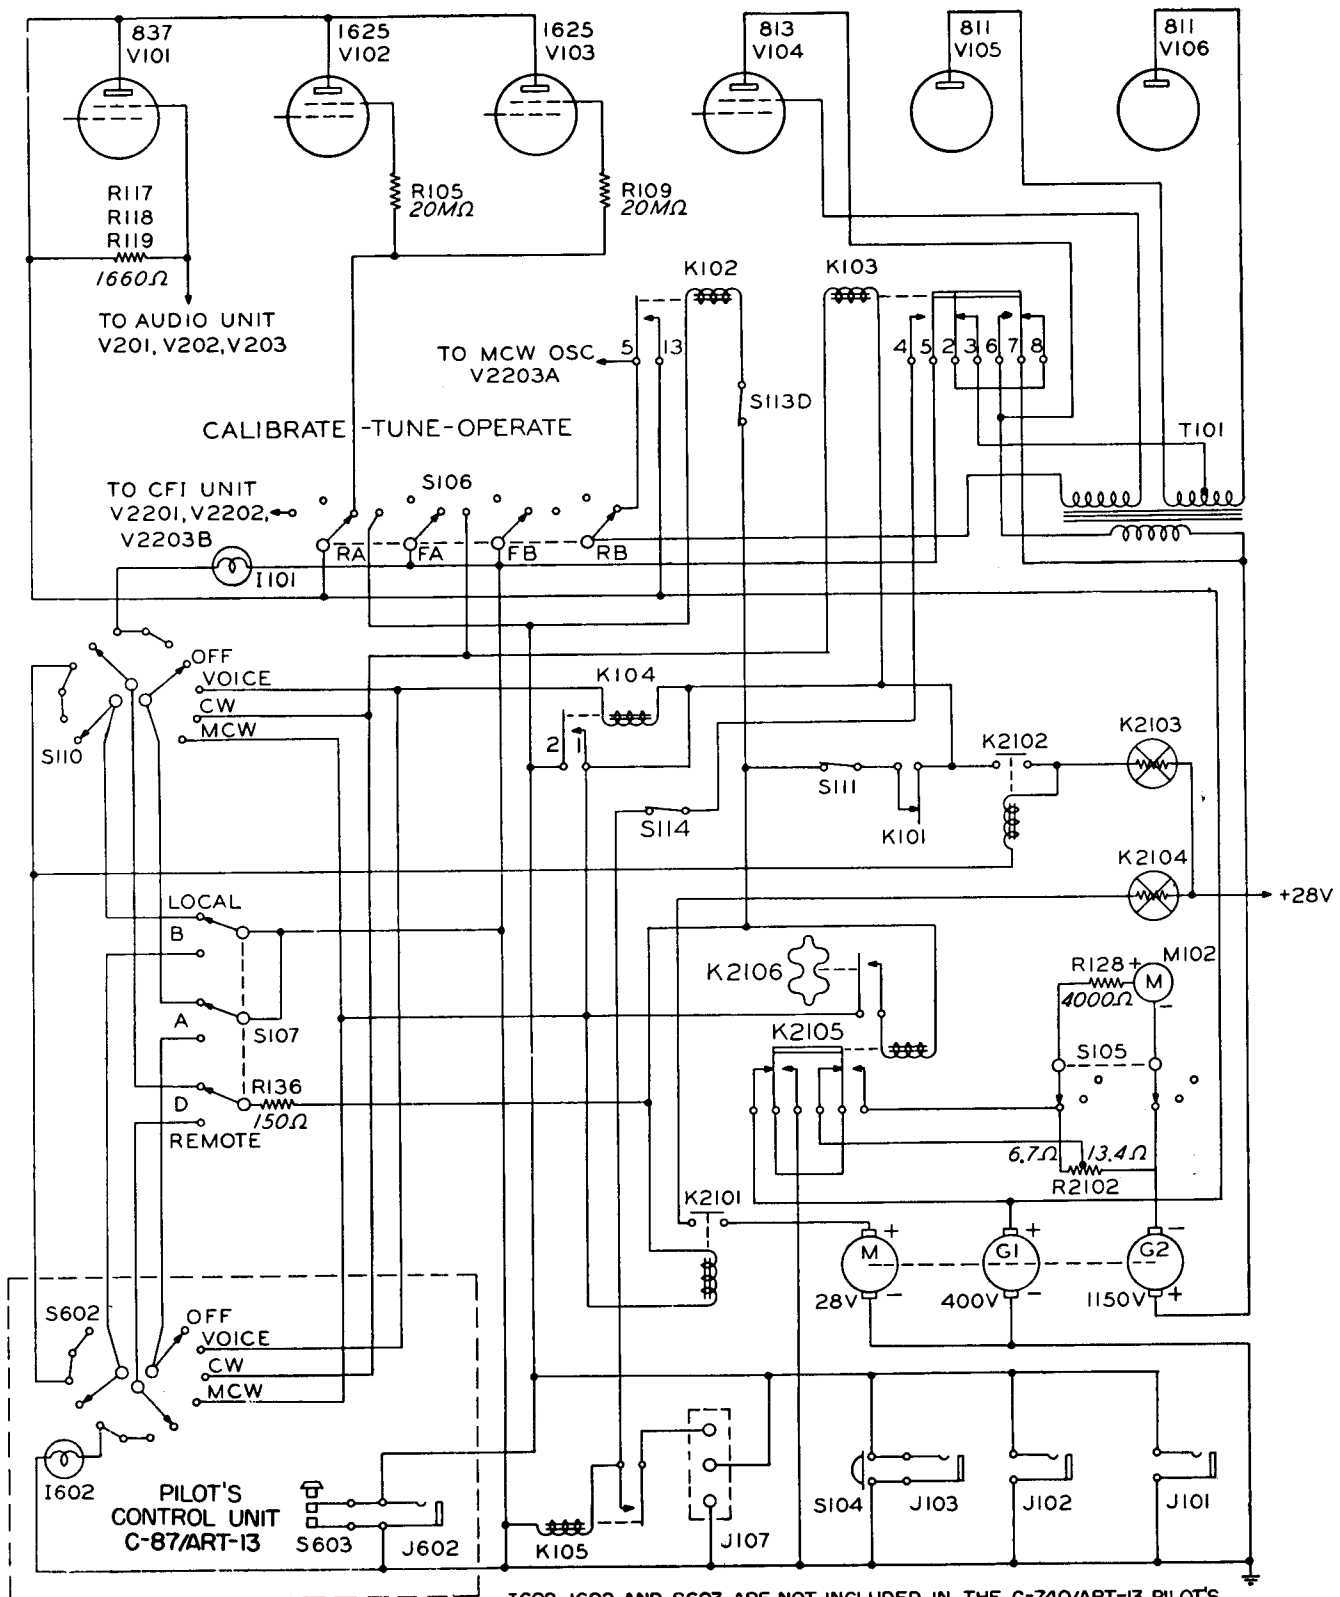

Figure 4-1. Power Control Circuits
b. Figure 4-1. shows a simplified schematic of the power control circuits.